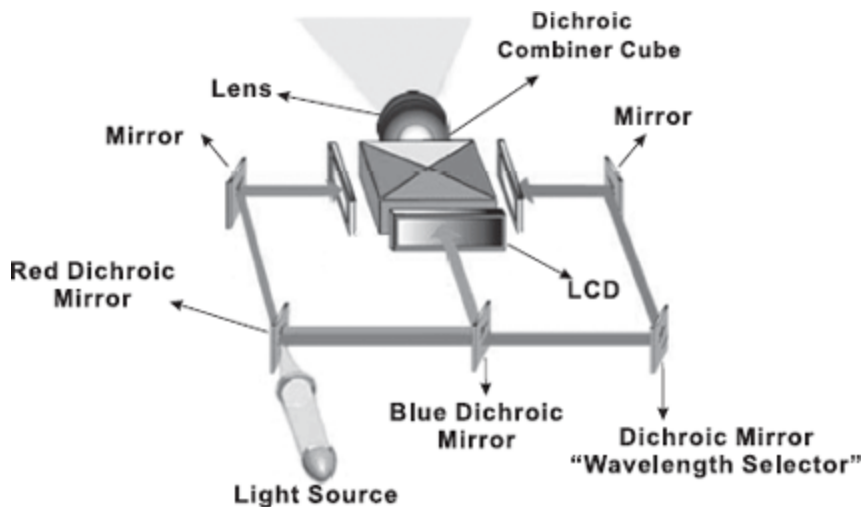

Figure 4.51 LCD Projector Display
- **LCD Projectors:** LCD is the established technology used by most of the leading manufacturers. Most of today's LCD projectors contain three separate LCD glass panels, one each for red, green and blue components of the image signal being fed into the projector. As light passes through the LCD panels, individual pixels can be opened to allow light to pass, or closed to block the light. This activity modulates the light and produces the image that is projected onto the screen (see Figure 4.51).